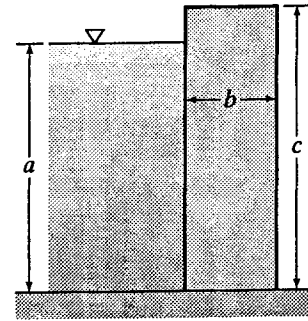

Figure X3.7.11
- 3.7.11 What minimum value of  $b$  in Fig. X3.7.11 is necessary to keep the rectangular masonry wall from sliding if it weighs  $160 \text{ lb/ft}^3$ ,  $a = 14 \text{ ft}$ ,  $c = 16 \text{ ft}$ , and the coefficient of friction is  $0.45$ ? With this minimum  $b$  value, will it also be safe against overturning? Assume that water does not get underneath the block.